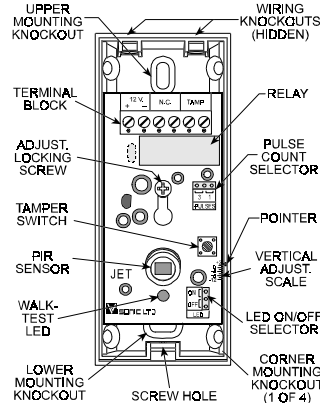

Figure 4. Inside View
E. Mount the base (equipped with the printed circuit board) in the location and height selected for optimum coverage. For surface mounting, use the two knockouts at the back; for corner mounting, use the knockouts on the angled sides (see Figure 4).
The vertical adjustment scale (printed on the lower right side of the p.c. board - see Fig. 4) and the plastic pointer on the base indicate in degrees the approximate vertical angle between the horizontal line of the unit and the upper detection layer.
The JET is equipped with a programmable pulse counter (see Figure 4), which can be set to count 1 or 3 pulses before activating the alarm relay. Place the jumper at the desired setting (1 or 3).